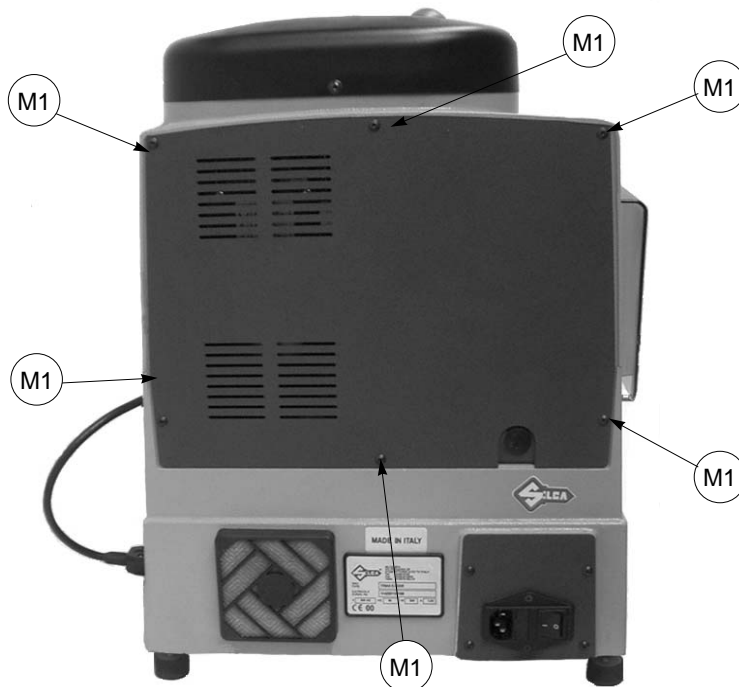

Fig. 37
- 2) loosen the 6 screws (M1) securing the rear plate (fig. 37) and remove.